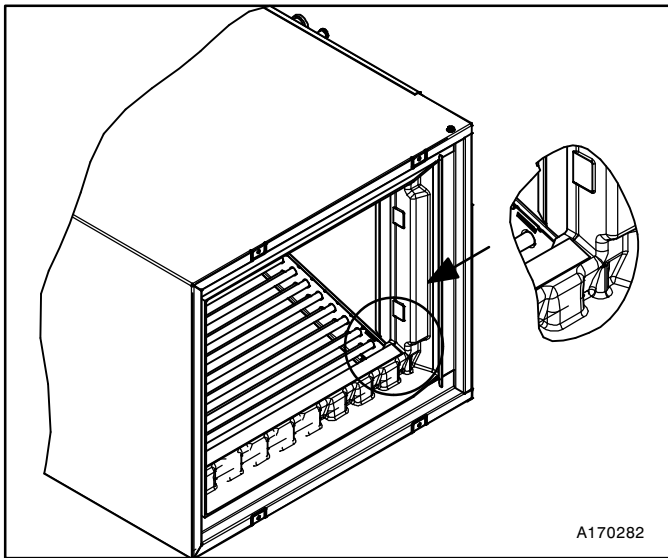

Figure 6 – Condensate Pan Extension Cork Tape Location
6. Use cork tape to create air seal between the undersides of the pan extension and front of the vertical drain pan as shown in **Figure 6**.